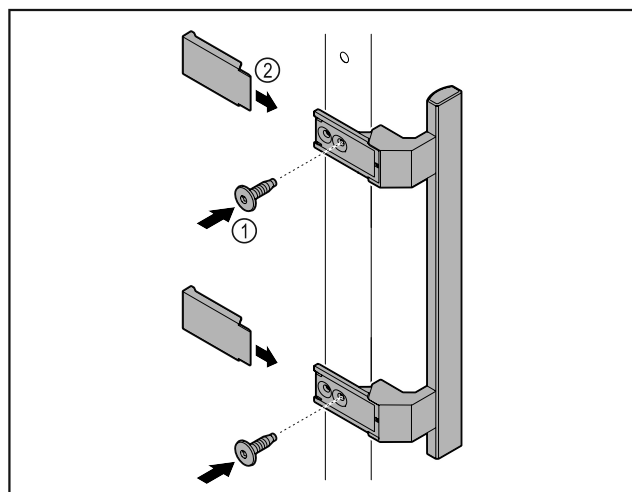

Fig. 5
- Attach handle from accessory kit to the door using the screws Fig. 5 (1) supplied.
- Put on covers Fig. 5 (2).